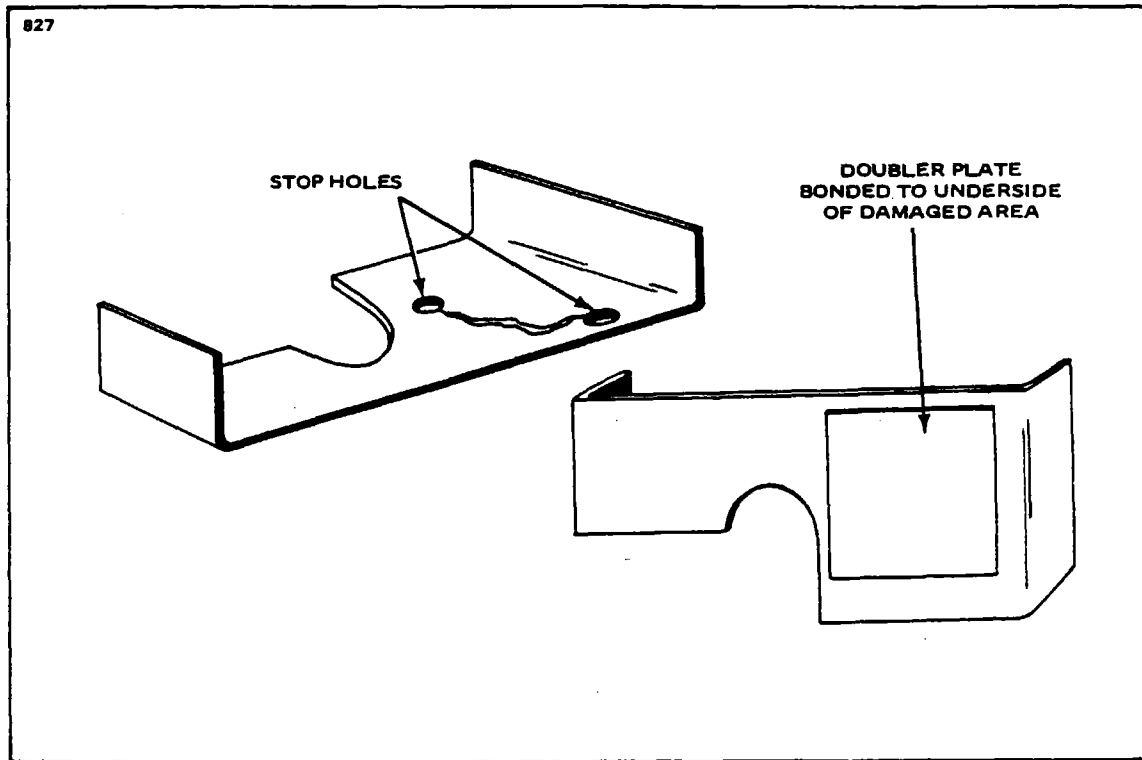

Figure 4-10. Repairing of Cracks.
d. Cracks: (Refer to Figure 4-10.)